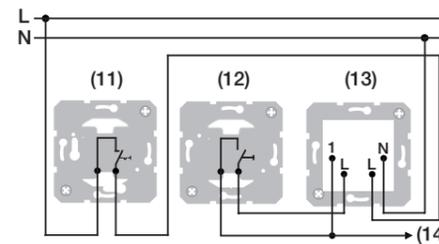
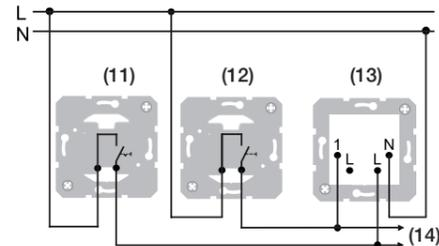

Figure 4: Connection example of colour switching via outer conductor, looped
Figure 5: Connection example of colour switching via outer conductor, not looped
The following example circuits show two possibilities for connecting the LED orientation light. In the connection example (Figure 4), the neutral conductor is pressed onto control input „1“ in order to switch over the colour. In the connection example (Figure 5), the outer conductor is pressed onto the control input „1“.
- Connect LED signal light, RGB according to connection example (Figure 4) or (Figure 5).
- Connect additional LED signal lights, RGB via (14).
- Install insert (13) into a wall box. The connecting terminals must be at the bottom.